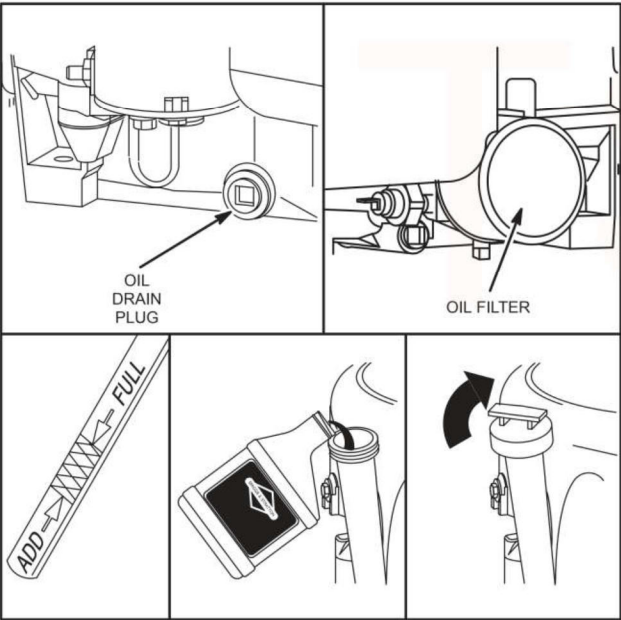

Fig. 1
Thereafter, change oil every fifty (50) hours of operation. Change oil more often if engine is operated in dirty or dusty conditions or if engine is operated under heavy loads or in high ambient air temperatures. Remove oil drain plug and drain oil while engine is still warm, Fig. 1. Replace drain plug. Remove dipstick and refill slowly with new oil of proper service classification and viscosity grade. Refill to full mark on dipstick. When checking oil level, dipstick must be screwed all the way in for accurate readings. Start and run engine to check for oil leaks.
Replace oil filter every 100 hours. Before installing new filter, lightly oil filter gasket with fresh clean engine oil. Screw filter on by hand until gasket contacts filter adapter. Tighten 1/2-3/4 turn farther, Fig. 1. Start and run engine at idle for 30 seconds and stop engine. Recheck oil level and add if required. Restart engine and check for oil leaks.